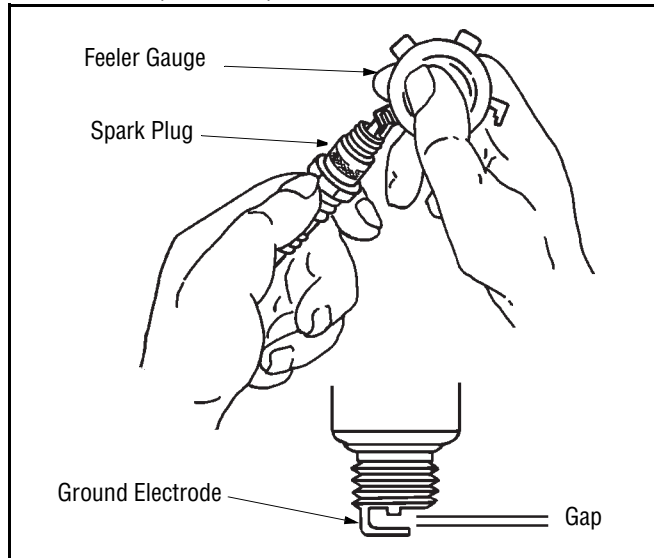

Figure 18
8. Check the gap using a feeler gauge and adjust, if necessary, by carefully bending the ground electrode. See Figure 18. Set the spark plug gap to 0.030 in (0.76 mm).